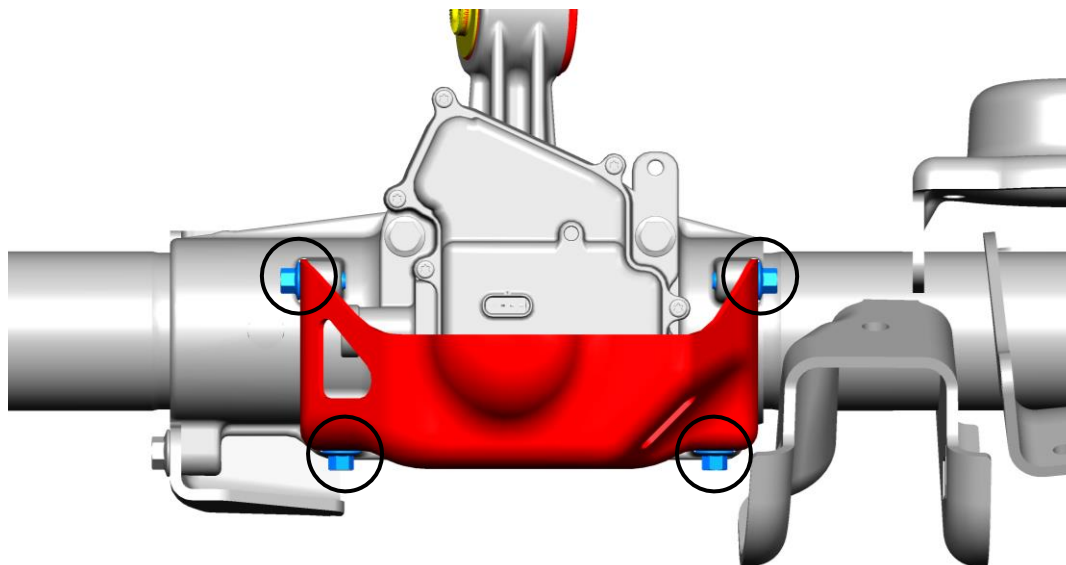

Figure 1: FAD skid plate (red) to be removed
Remove the factory FAD skid plate located on the backside of the axle using a 10mm socket. The factory skid plate is highlighted red in Figure 1, and the (4) 10mm bolts that fasten it are highlighted in blue. Keep all factory hardware unless noted otherwise.